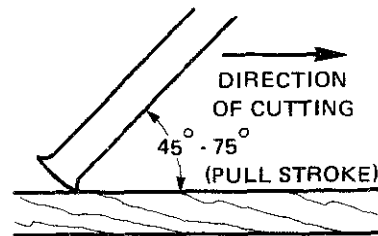

Fig. 13-4 Hand scraping with a pull stroke.
2. When using a rectangular blade with a pull stroke, set the blade as shown in figure 13-4. Pull the scraper with an even easy pressure and keep the blade at the same angle throughout the stroke.